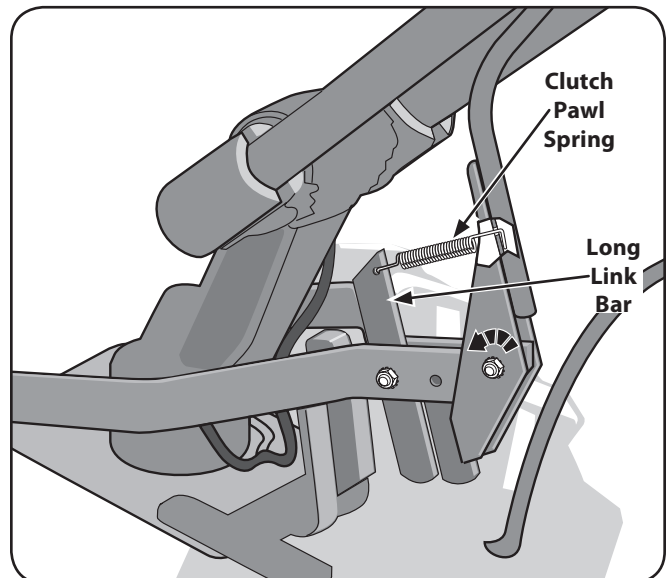

Figure 3-9
5. Retrieve the clutch pawl spring from hardware bag. Remove the temporary screw from the forward holes inserted in Step 3 and move the Wheels/Tines/PTO Lever fully forward. Install the wider hook end of the clutch pawl spring down into the small hole at the end of the handle. Use pliers to insert the other end into the hole in the long link bar. See Figure 3-9.